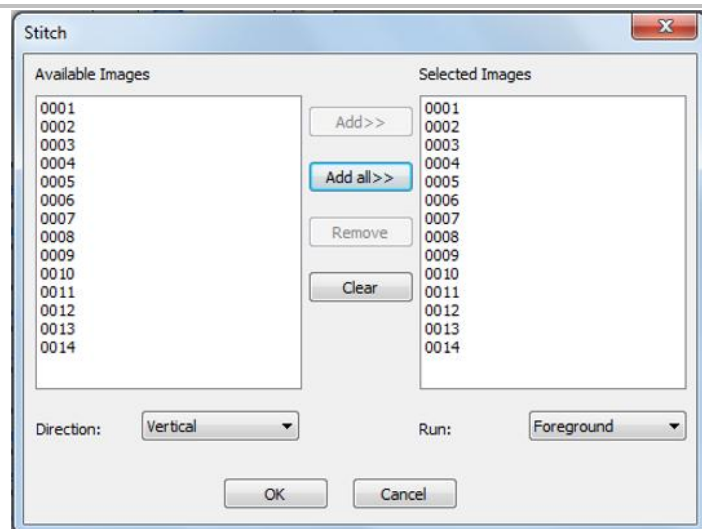

Figure 40. Stitch dialog in basic stitching method
- 10) Click on any of the image tabs. From the Menu toolbar, select Process > Stitch to open the Stitch dialog shown in Figure 40.